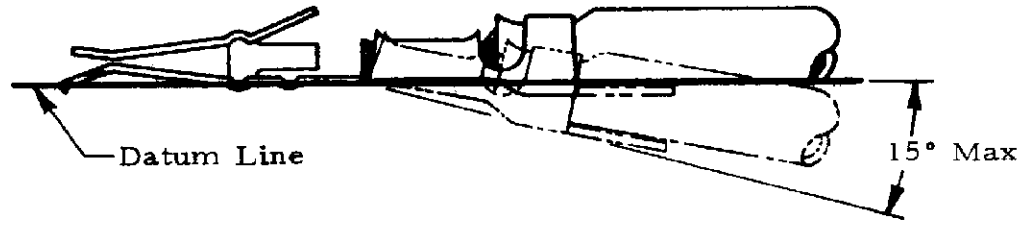

Figure 2
- (1) The contact, excluding the tab shall not be bent above the datum line or below the datum line more than the amount shown in Figure 2.